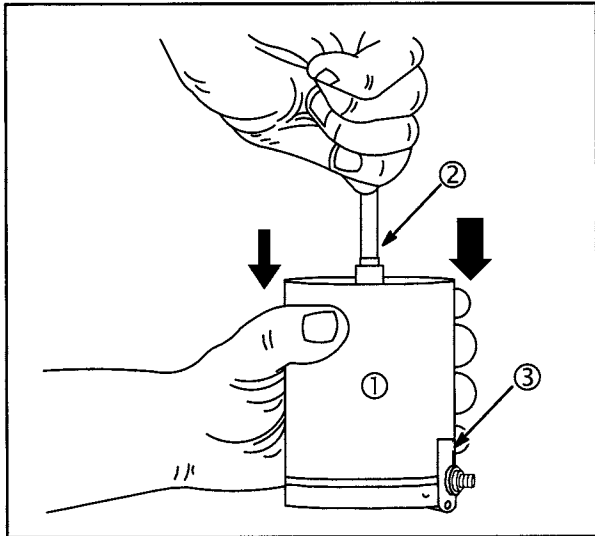

Fig. 27
The starter housing (1) has a large notch (3) which indexes over the insulated terminal, Fig. 27.
2. Slide starter housing (1) over armature (2), aligning notch with insulated terminal.